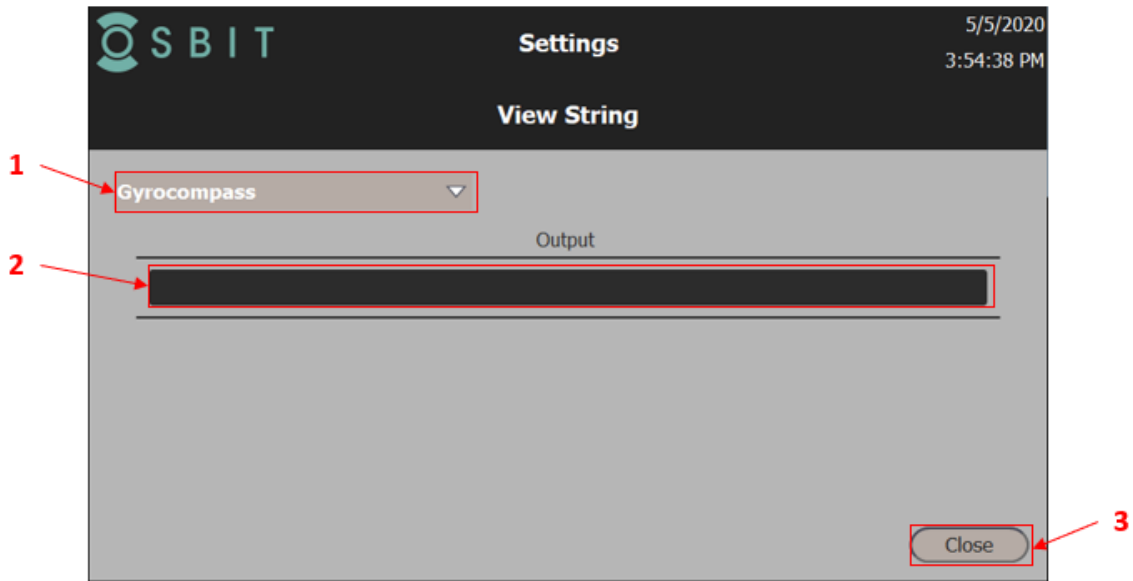

Figure 8 - View Strings Page - Plow Control System
- View Strings Page – See Figure 8